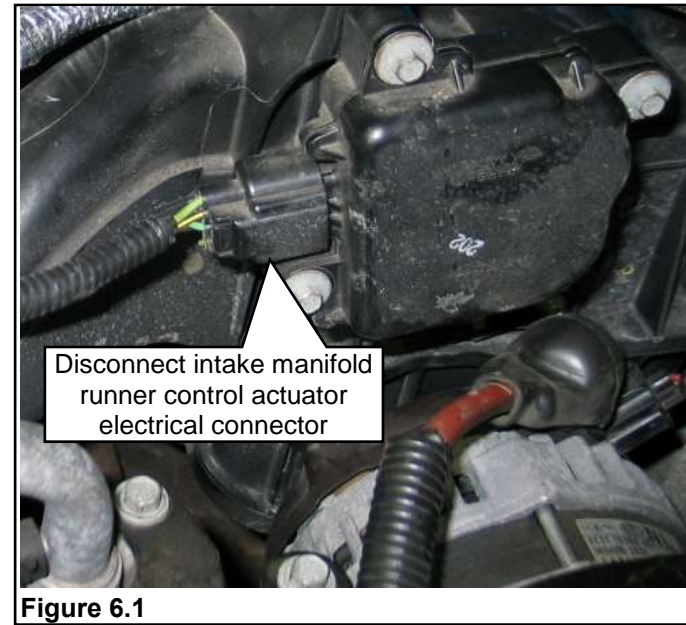

Figure 6.1
1. Disconnect the intake manifold runner control (IMRC) actuator electrical connector as needed. **Figure 6.1.**